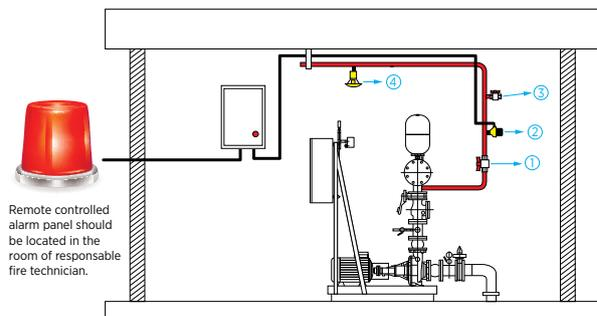

Figure 16
As shown in Figure 16, the sprinkler supply line should be taken immediately after the pump supply line and check valve. Over this line, a ball valve (1) and flow switch (2) should indicate the sprinkler (4) operation with an audio and flashing alarm in accordance with EN 12259-5 standard. This alarm system should be located in the control room. Using test and drainage valve (3), this system should be verified to operate (by opening the valve). Other end of the drainage valve should be connected to the reserve tank, and the water should be returned to the reserve tank during the test, which is performed by opening the valve. All the electrical devices to be used in this system should be of IP55 protection class. Why is the sprinkler system is located in the fire pump room is a frequent question. Diesel motors are used in various fire pump systems and these motors are provided with fuel. In a possible fire which may arise in the meantime, this standard is also referred for life safety of the worker in the room. Remember that the pumps in this location have electrical supply lines as well, any spark which may occur in this case is possible to cause a fire. Beyond that, a sprinkler system is a must in each location having flammable liquid or fuel.